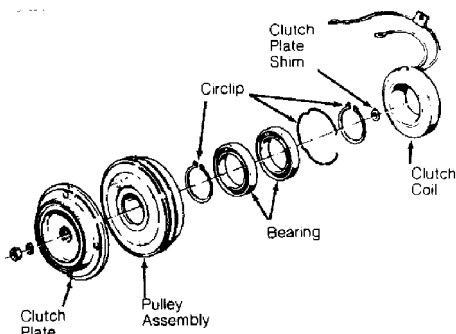

Fig. 2: Exploded View Of Compressor Clutch (Bosch 6-Cylinder)
2) Using a feeler gauge, check clutch plate-to-pulley clearance. Clearance should be .028-.051" (.7-1.3 mm). If clearance is not correct, remove clutch plate and replace clutch plate shim. See Fig. 2.